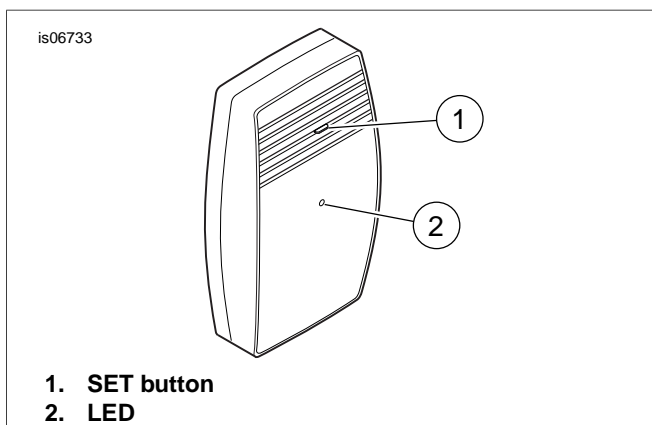

Figure 26. Garage Door Opener Receiver, Front View
3. See Figure 26. Press and hold the SET button on the Harley-Davidson garage door opener **receiver**. The LED on the **transmitter** (on the vehicle) blinks continuously while the SET button is pressed.